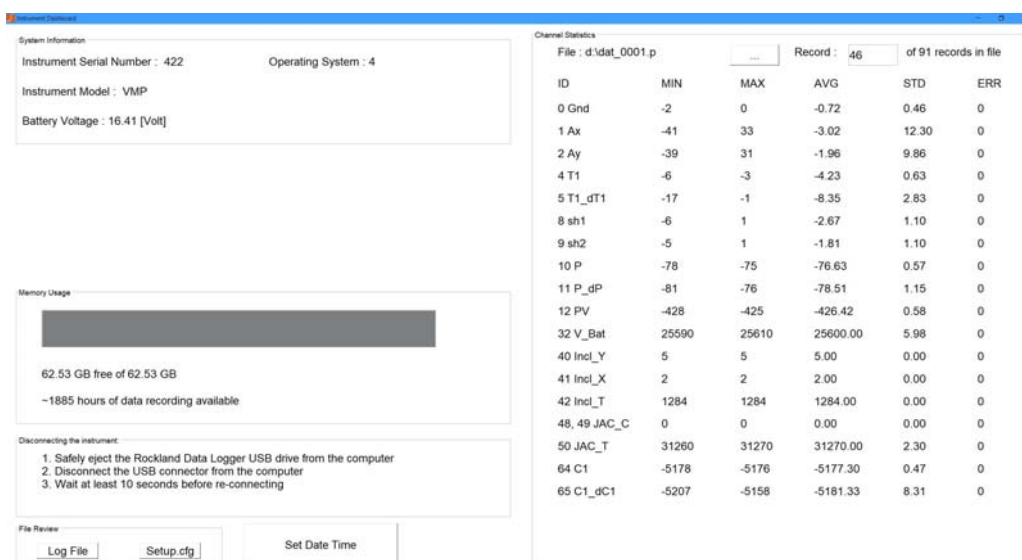

Figure 29: Viewing the Rockland Data Logger status with Zissou Essentials.
Connecting to the instrument using the Zissou Essentials software provides additional functionality via the "Instrument Dashboard" (Figure 29). For more information, refer to the Help menu of the Zissou Essentials software program. When the connection is made with the Instrument Dashboard, the computer will simultaneously connect to the Data Drive (as described in Section 4.2.1) to allow file transfer. The additional functionalities of the Instrument Dashboard include:
7. The Instrument Dashboard will appear and provide you information about your instrument and your Rockland Data Logger (Figure 29). Refer to the "Help" menu of the Zissou Essentials software program for more information about the dashboard.